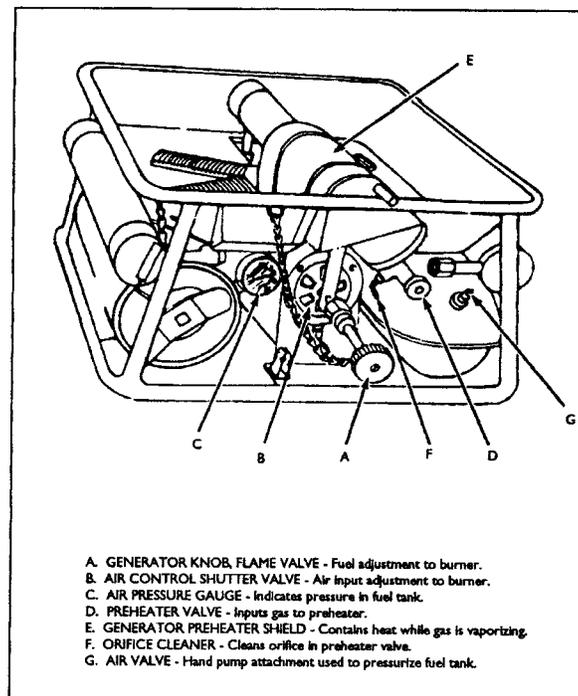

Figure 3-5. M2 burner unit
1. Inspect the burner unit before operation. See Figure 3-5.